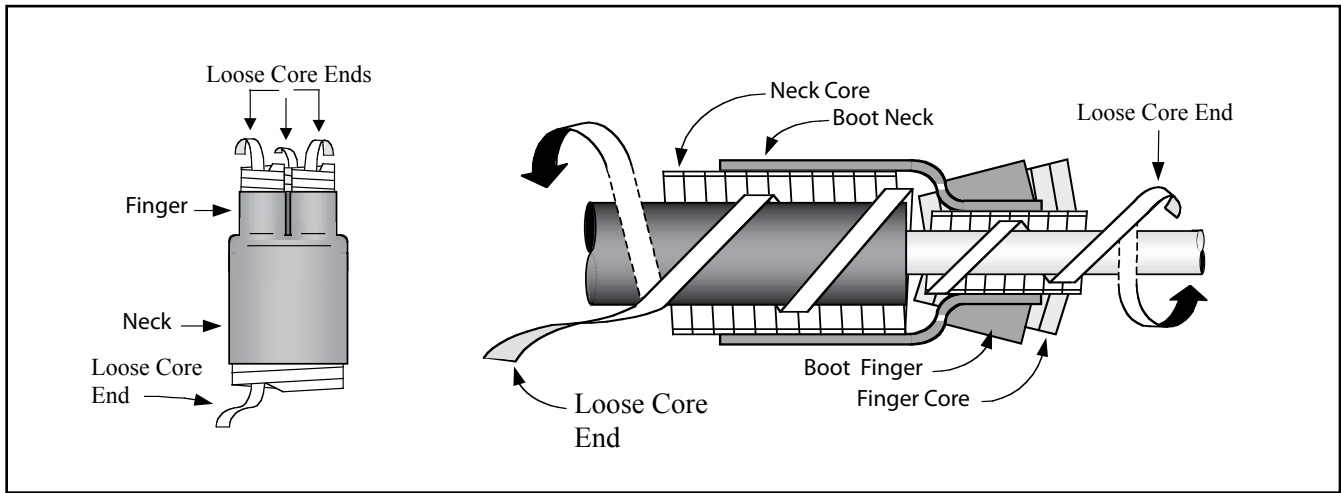

Figure 13
3.1 Inspect breakout boot assembly and confirm that all loose plastic core ends are free as shown (Figure 13).